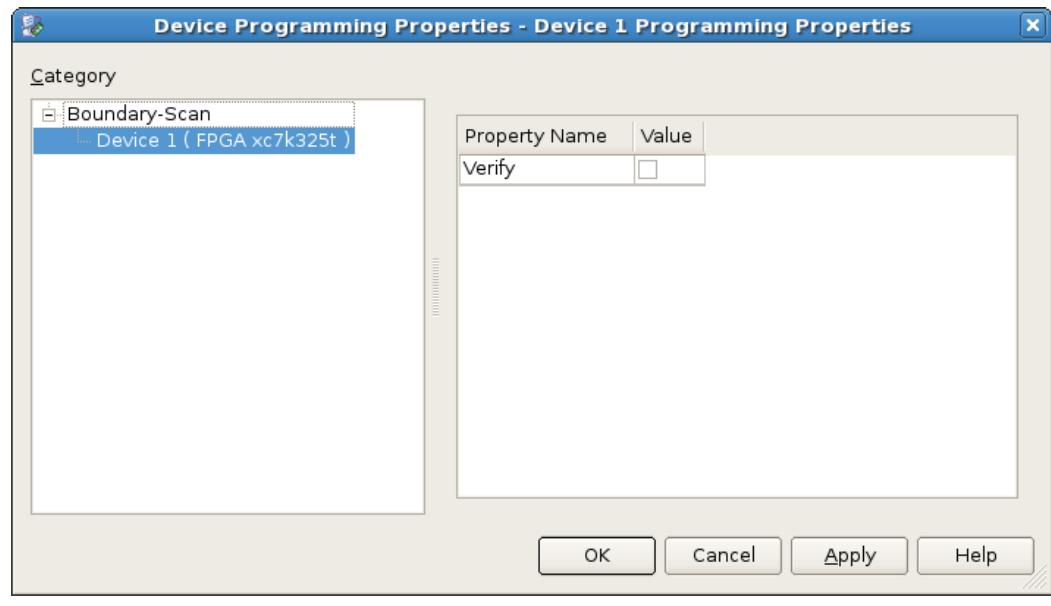

Figure 15: Device Programming Properties Dialog
20. In the Device Programming Properties window, click **OK** (Figure 15).